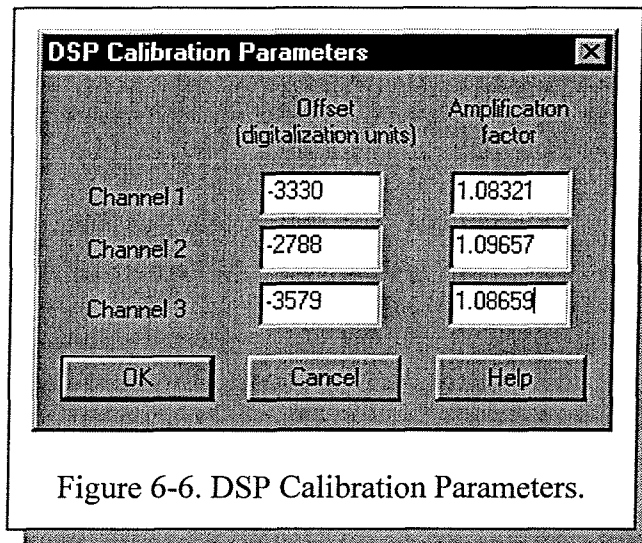

Figure 6-6. DSP Calibration Parameters.
6.7 Acquisition (data) / DSP-calibration parameters (Figure 6-6.)